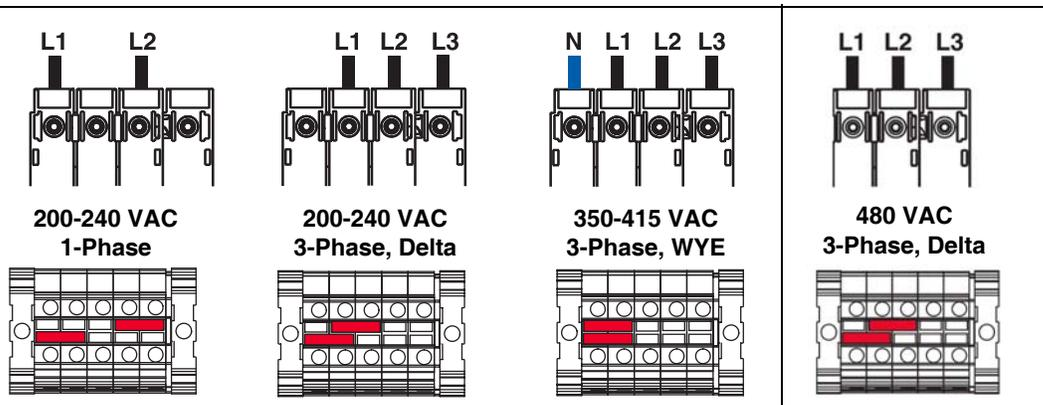

FIG. 7 Terminal Jumpers and Positions
1. Turn the main power disconnect switch (AG) OFF.
4. Connect the ground wire to ground terminal (GT).
5. Connect the power cord as shown (see FIG. 7, **Terminal Jumpers and Positions**). Gently pull on all connections to verify that they are properly secured.
6. Tighten strain relief (SR).